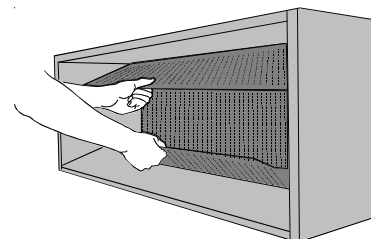

Figure 9 - Panel Removal
3. Grasping the top and bottom flanges of the rear closure panel as shown in Figure 9, the entire panel is pulled out diagonally from one side.